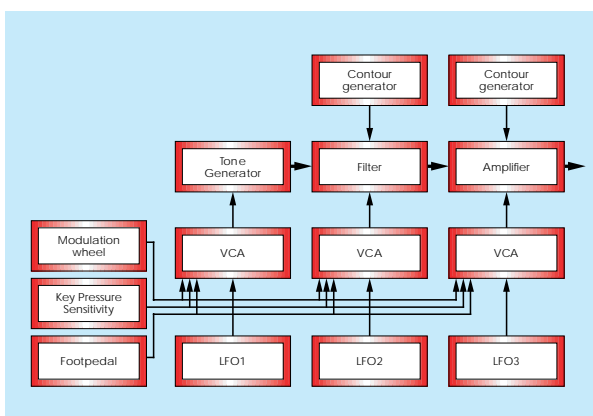

Figure 11:
► These might include modulation wheels, aftertouch (pressure sensitivity), or foot pedals. The block diagram for this (Figure 11) may look daunting, but you will see that it breaks down into the easily understood parts shown above.